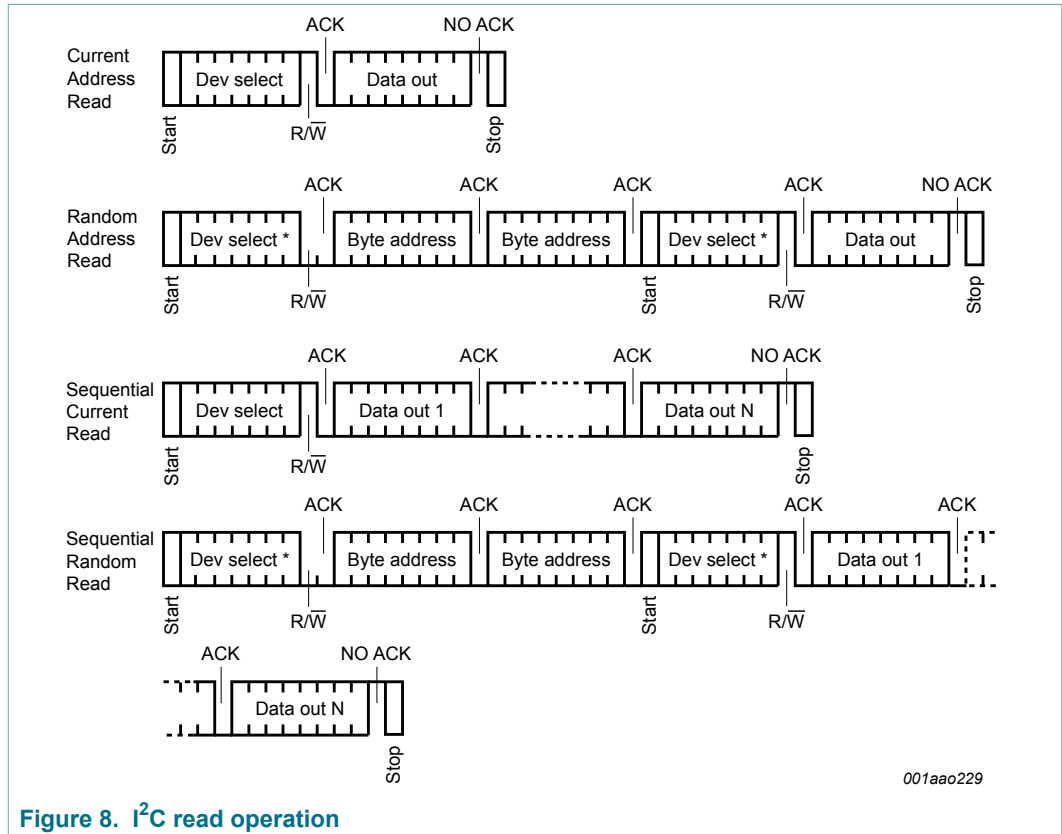

Figure 8. I²C read operation
A dummy Write is first performed to load the address into this address counter (as shown in Figure 8) but without sending a Stop condition. Then, the bus master sends another Start condition, and repeats the device select code, with the Read/Write bit (RW) set to 1. The UCODE I²C acknowledges this, and outputs the contents of the addressed byte. The bus master must not acknowledge the byte, and terminates the transfer with a Stop condition.
For the Current Address Read operation, following a Start condition, the bus master only sends a UCODE I²C select code with the Read/Write bit (RW) set to 1. The UCODE I²C acknowledges this, and outputs the byte addressed by the internal address counter. The counter is then incremented. The bus master terminates the transfer with a Stop condition, as shown in Figure 8, without acknowledging the Byte.
pulses so that the UCODE I²C continues to output the next byte in sequence. To terminate the stream of bytes, the bus master must not acknowledge the last byte, and must generate a Stop condition, as shown in Figure 8.